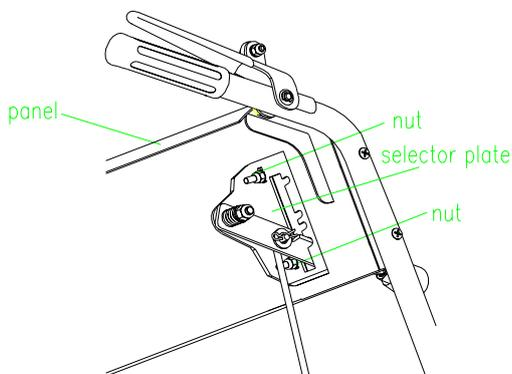

FIG 21
6.5.4 Loosen the flange nuts that secure the selector plate to the control panel. (FIG 21)